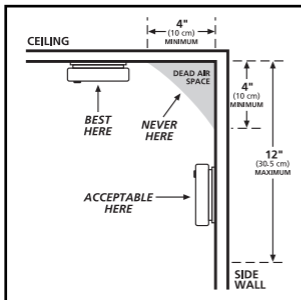

FIGURE 1
- When mounting an alarm on the ceiling, locate it at a minimum of 4" (10cm) from the side wall (see figure 1).
- When mounting the alarm on the wall, use an inside wall with the top edge of the alarm at a minimum of 4" (10cm) and a maximum of 12" (30.5cm) below the ceiling (see figure 1).
Modern mobile homes have been designed and built to be energy efficient. Install smoke alarms as recommended above (refer to RECOMMENDED LOCATIONS and figures 1 and 2).
In older mobile homes that are not well insulated compared to present standards, extreme heat or cold can be transferred from the outside to the inside through poorly insulated walls and roof. This may create a thermal barrier which can prevent the smoke from reaching an alarm mounted on the ceiling. In such units, install the smoke alarm on an inside wall with the top edge of the alarm at a minimum of 4" (10cm) and a maximum of 12" (30.5cm) below the ceiling (see figure 1).